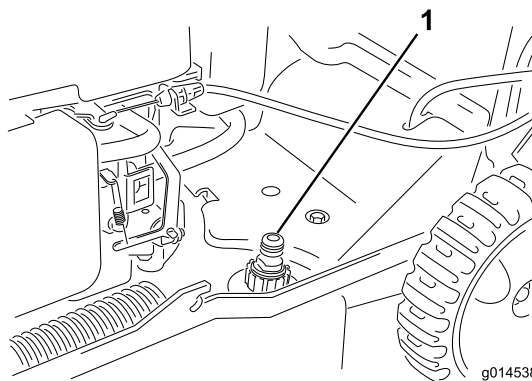

Figure 18
3. Attach a garden hose that is connected to a water supply to the washout port (Figure 18).